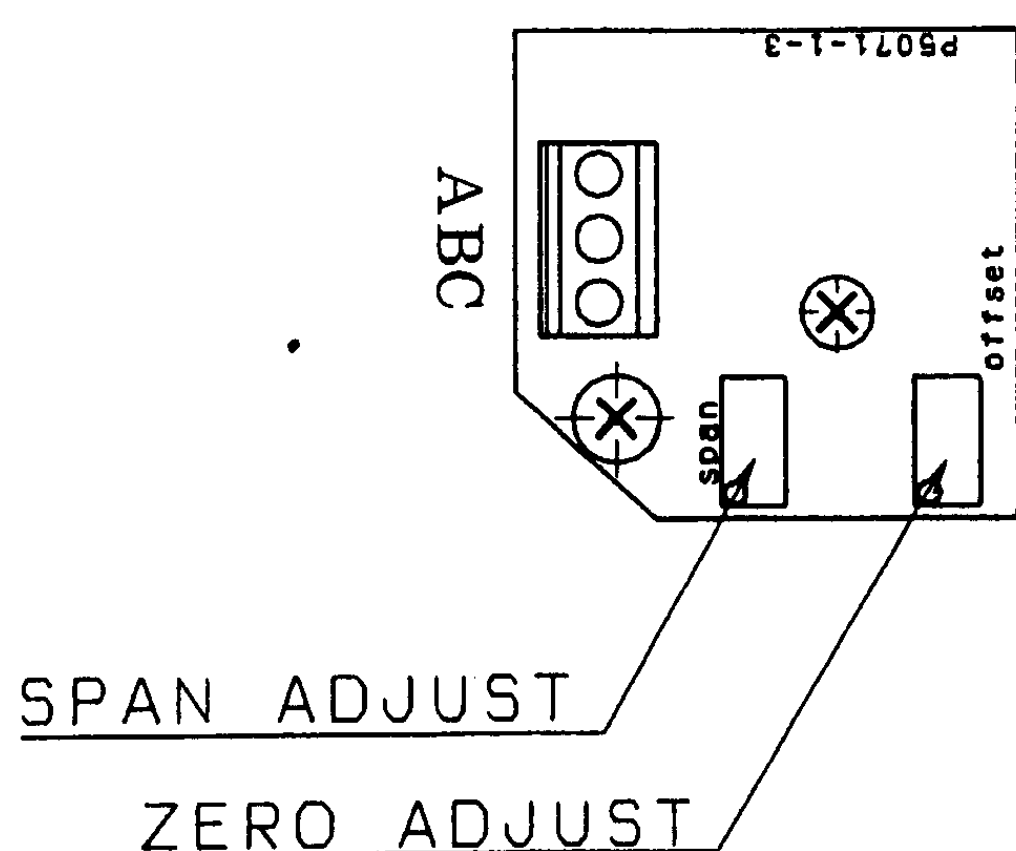

Fig2. P.C.board
- ① Set actuator's output opening to 0% after adjusting the zero span.
- ② Classification of accessory: For J, Output signal is connected to rise in normal operation (clockwise). To apply the positioner in reverse operation (counter-clockwise), specify the classification of accessory, JR, beforehand. Rearrange the cam to the opposite side and switch the terminal "A" and "C" of the substrate in Figure 2 to change the operating direction of the delivered product and output direction of the output signal.